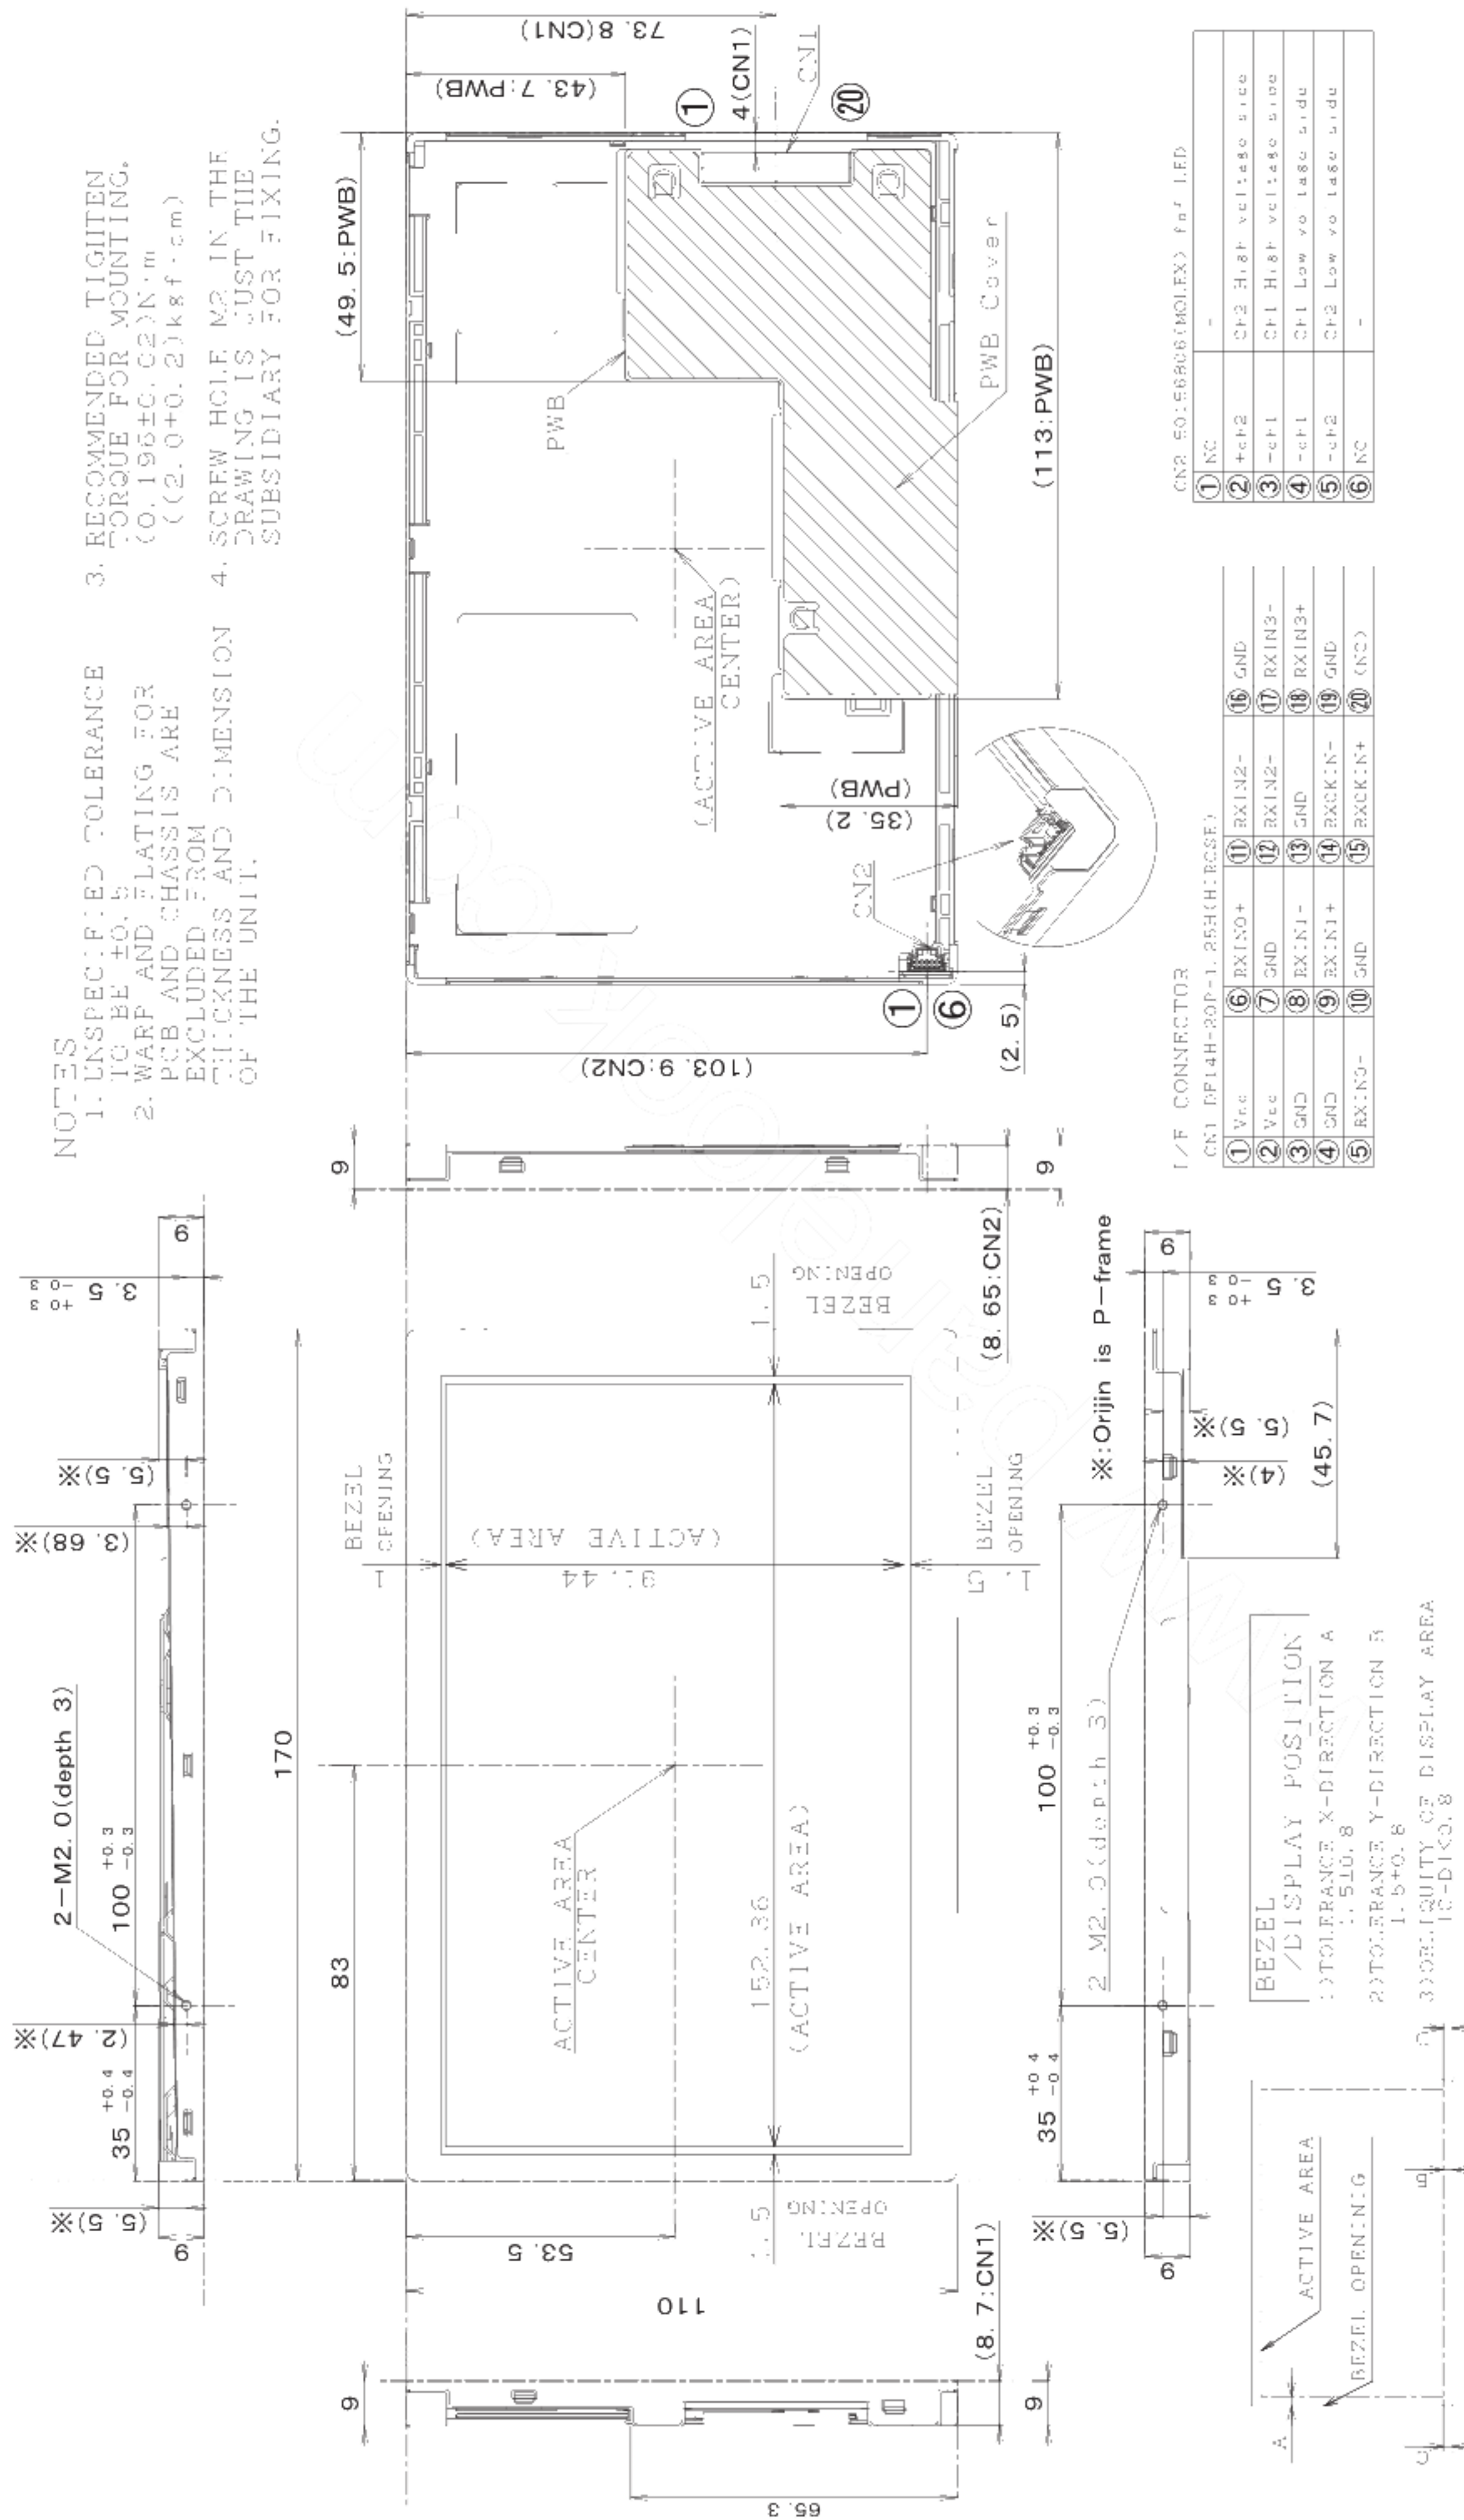

Fig. 1 OUTLINE DIMENSIONS : QC70Y3T.W01
- t) Screw hole M2 in the Fig.1 is just the subsidiary for fixing.